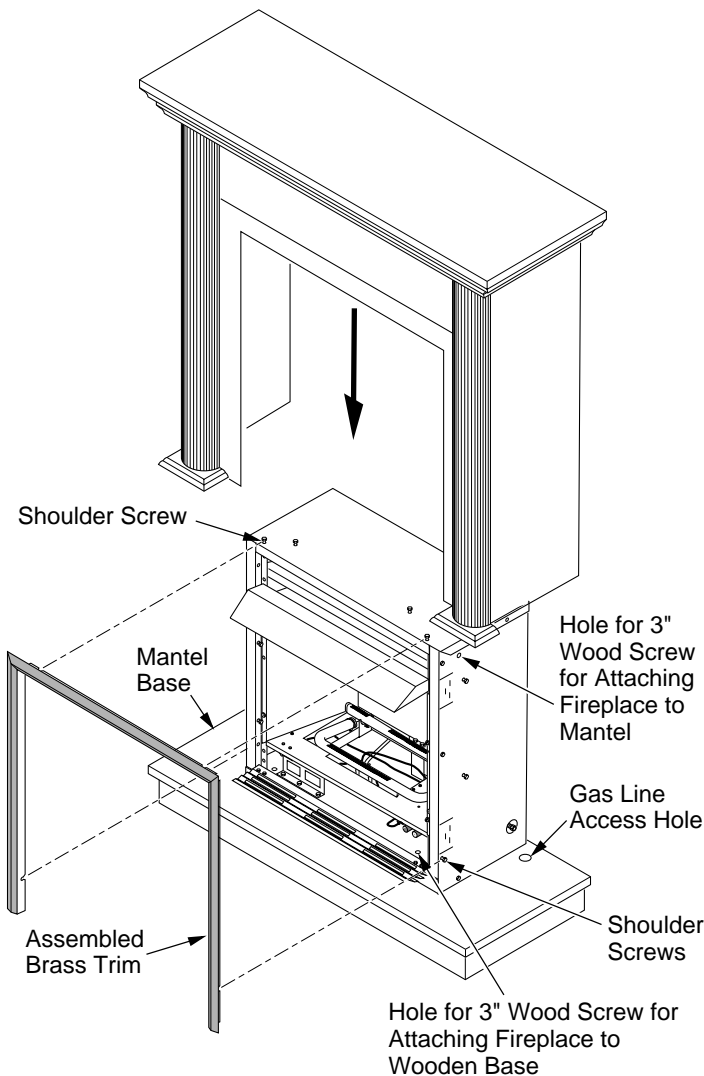

Figure 12 - Attaching Brass Trim to Fireplace
3. Place fireplace on wood base (see Figure 12, page 11).
4. Place mantel around fireplace on base (see Figure 12, page 11).
6. Firmly snap perimeter trim kit on shoulder screws. Shoulder screws are located on fireplace cabinet (see Figure 12, page 11).
9. Use two 3" wood screws provided and attach base of fireplace to wooden mantel base (see Figure 12, page 11).
11. Cut an access hole in base to run flexible gas line to fireplace (see Figure 12, page 11). Make sure to locate access hole so mantel will cover it when installed. **Note:** You can secure base to floor using wood screws. Countersink screw heads and putty over.
15. Place perimeter trim kit on the shoulder screws located on the side and top of the fireplace. Firmly snap trim over shoulder screws on fireplace (see Figure 12).
16. Adjust assembly to remove any gaps. Attach remaining two 3" wood screws from hardware pack through openings inside of fireplace sides into the mantel. The openings are located at top behind the area for top louver (see Figure 12).